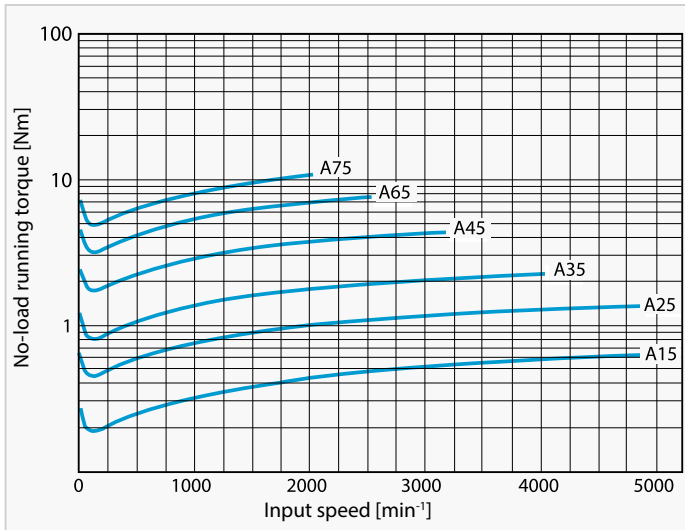
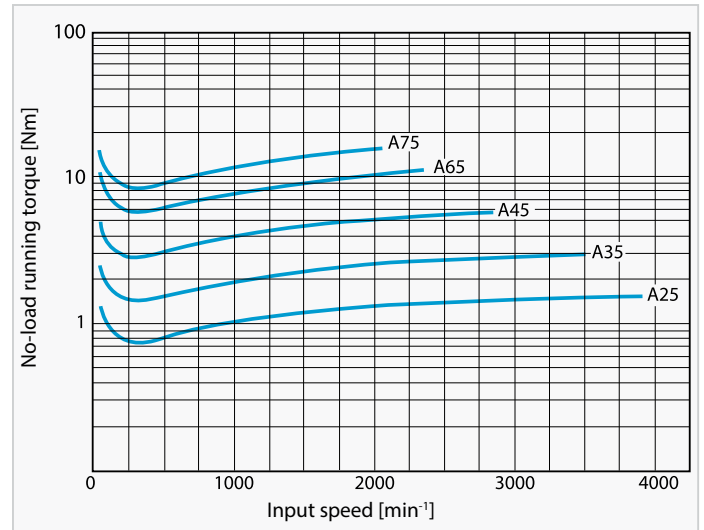

Fig. A1 Input side no-load running torque ( $i = 59-119$ )
Fig. A2 Input side no-load running torque ( $i = 29$ )
1. Fig. A1 and Fig. A2 show the average no-load running torques after gearbox is run in (not new condition)